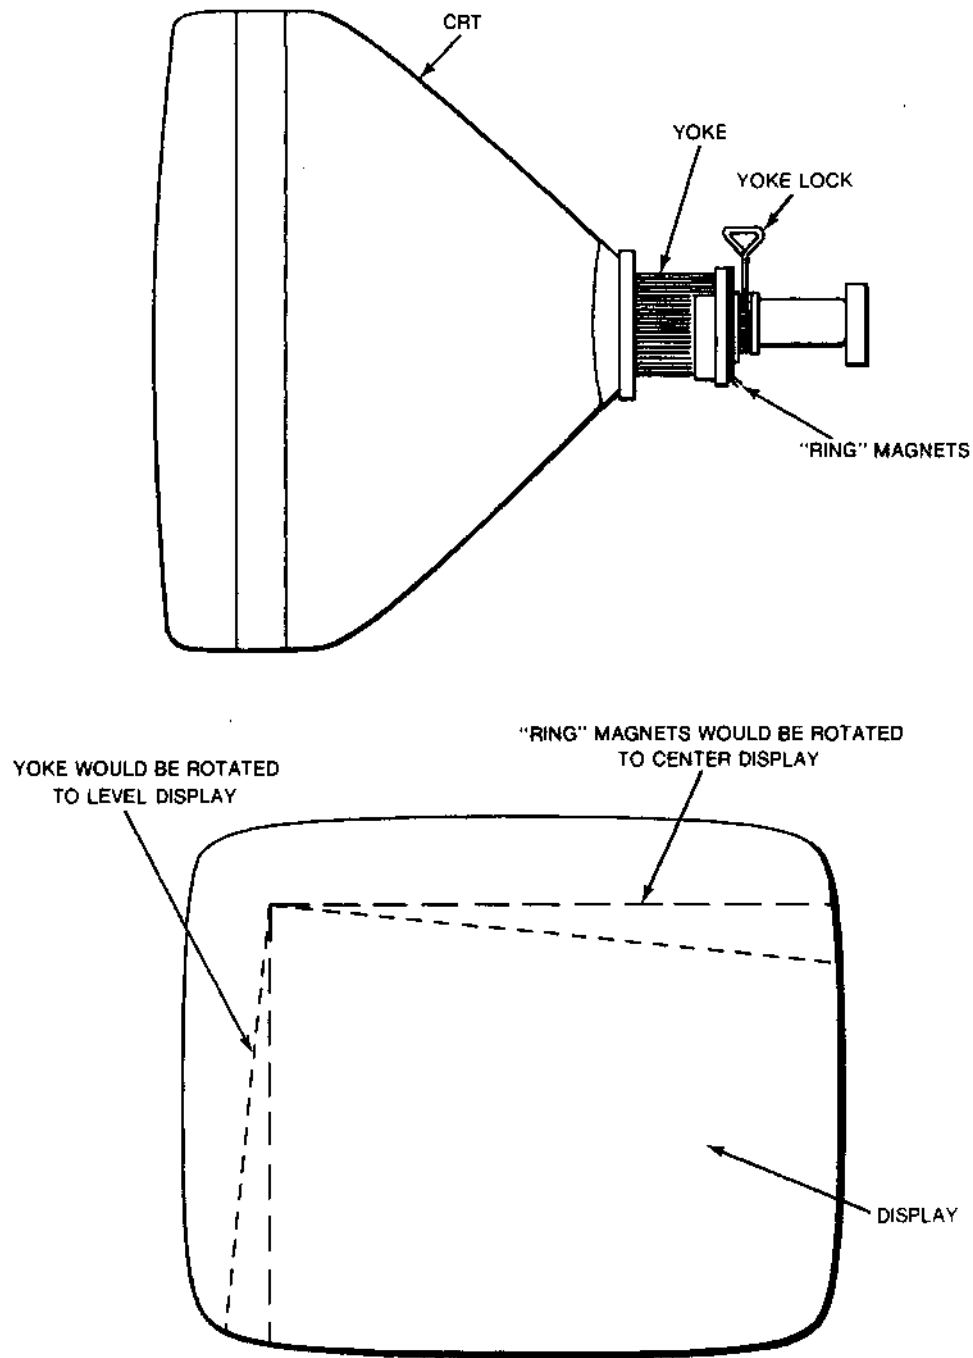

Figure 6-1. DISPLAY CENTERING
3. Adjust the ring magnets (see Figure 6-1) so the display is centered. Both magnets must be used in conjunction with each other.